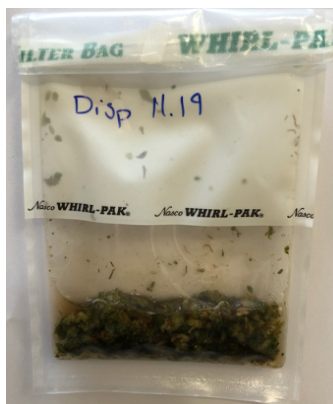

Figure 3: Homogenized cannabis flower and TSB.
9. If processing multiple samples, be sure to change gloves between each sample to ensure that there is no cross-contamination between samples during the weighing process. See flower example in Figure 3.